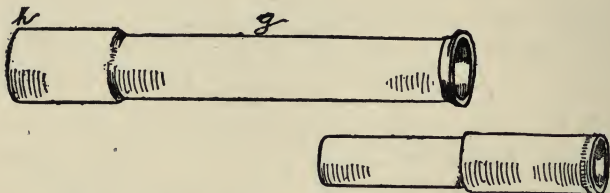

Fig. 14.—Plain Capped and Welting Ferrules.
3. Capped and welted ferrules are of the same form as the two mentioned above, but the caps are plain, as shown in Fig 14.
In all carefully made German silver ferrules the outside diameter of the female ferrule at *g* (Fig. 14) is identical with the inside diameter of the cap at *h*. This is a help to the